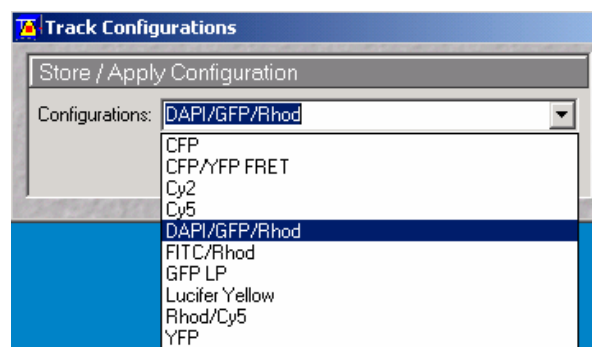

Fig. 14 Track Configurations window
- Clicking on the **Config** button opens the **Track Configurations** window (Fig. 14) to load, store or delete track configurations.